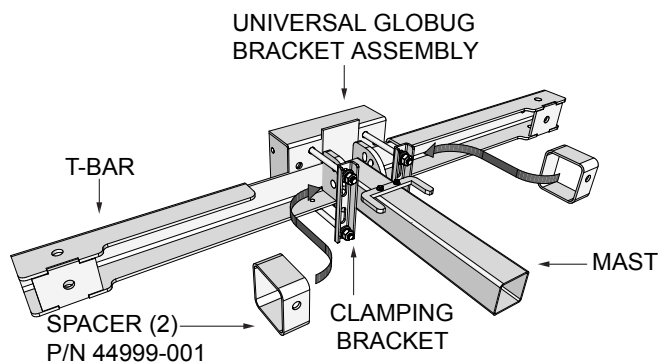

Figure 5. Clamping Brackets
DO NOT securely fasten J-box clamping brackets (2) as referenced in the Universal Mounting Kit Instructions. These two clamping brackets should be left loose in order to insert the support spacers (P/N 44999-001) as shown in Figure 5.
2. Insert spacers (P/N 44999-001) to fit between the clamping brackets and T-bar. **DO NOT** remove brackets. Reference Figure 5